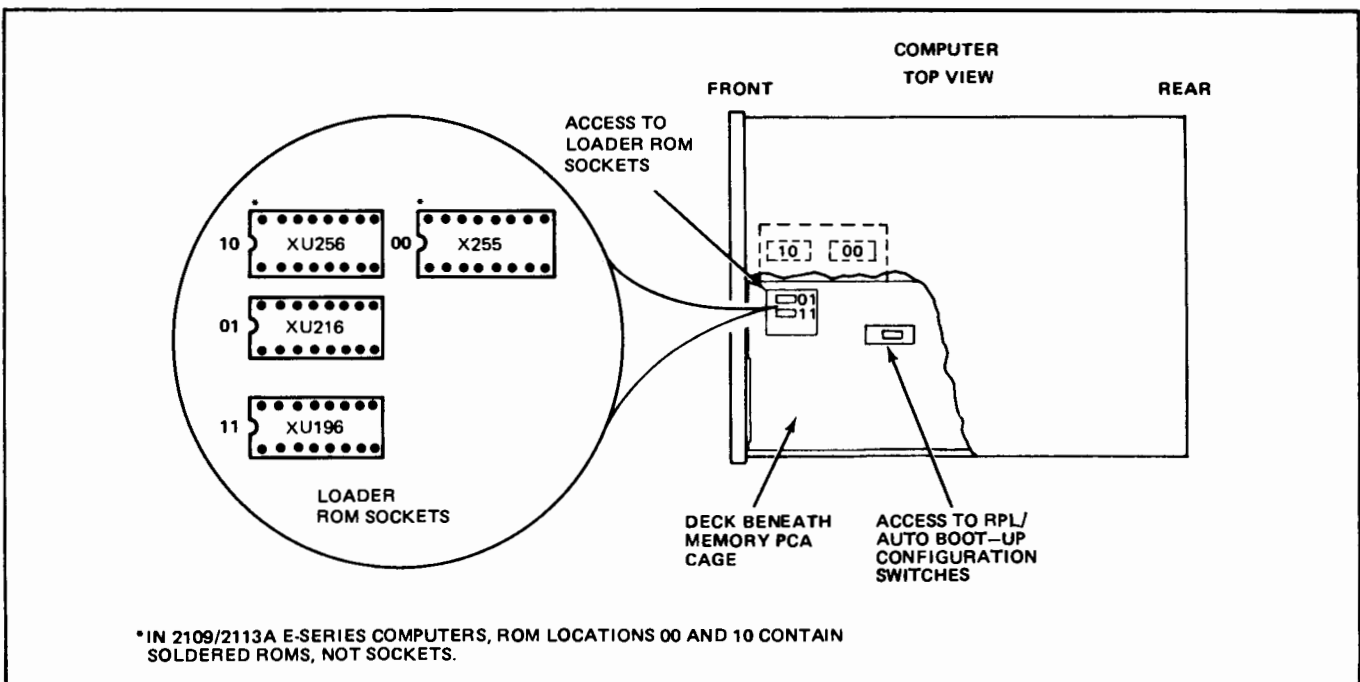
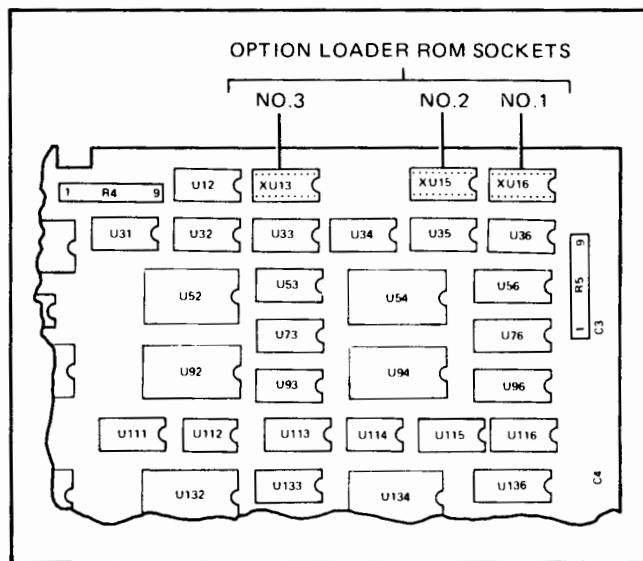

Figure 1. Optional Loader ROM Sockets (E-Series Computer)
Figure 2. Optional Loader ROM Sockets (M-Series Computer)
Each loader ROM consists of a single ROM integrated circuit (IC) mounted in 16-pin IC sockets on the component side of the CPU printed circuit assembly (PCA). The F-Series (2111/2117F) and E-Series (2109/2113B) provide four sockets to accommodate four optional loader ROMs (standard ROMs removed). The E-Series (2109/2113A) can accommodate two optional loader ROMs, and the M-Series computer can accommodate up to three optional loader ROMs. Special IC sockets are provided on the computer CPU PCA for installation of the ROM IC's. These IC sockets are designated as sockets 01 and 11 in the E-Series 2109/2113A, as sockets 00, 01, 10 and 11 in the F-Series 2111/2117F and E-Series 2109/2113B, and as sockets 1, 2 and 3 in the M-Series computer. See figure 1 for socket locations in the F-Series and E-Series, and figure 2 for socket locations in the M-Series. Any of the loader ROM's can be installed in any of the designated loader ROM sockets. S-register bits 14-15 are used to select the proper loader ROM. If the loader ROM's are installed on the CPU PCA by Hewlett-Packard prior to shipment to the customer, they are installed as follows.
Optional loader ROM's in 2109/2113A Computers are accessed through the memory PCA cage. To install any loader ROM, refer to figure 1 and proceed as follows:
- f. At bottom of memory PCA cage, locate opening in deck for access to the optional loader ROM sockets. (See figure 1.)
Loader ROM sockets in 2109B/2113B/2111F/2117F Computers are accessed through the Memory PCA cage (sockets 01 and 11) or on the CPU board (sockets 00 and 10). To install any loader ROM in sockets 01 or 11, refer to figure 1 and proceed as described above for the 2109A/2113A E-Series Computer, Steps a through h.
To install any loader ROM in sockets 00 or 10 refer to figure 1 and proceed as follows:
PCA. To install any loader ROM in the M-Series computer, refer to figure 2 and proceed as follows:
- b. On the component side of the CPU PCA, install loader ROM(s) into any of the three ROM sockets shown in figure 2. Ensure that the loader ROM is installed with the notched end oriented the same as other installed IC's.